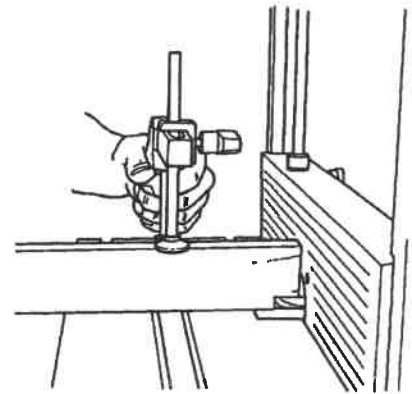

Fig. C-4
9. Turn on the Dust Collector and the router. Place workpiece "B" on edge against the miter gauge, then make the first cut on "B." See Fig. C-4.